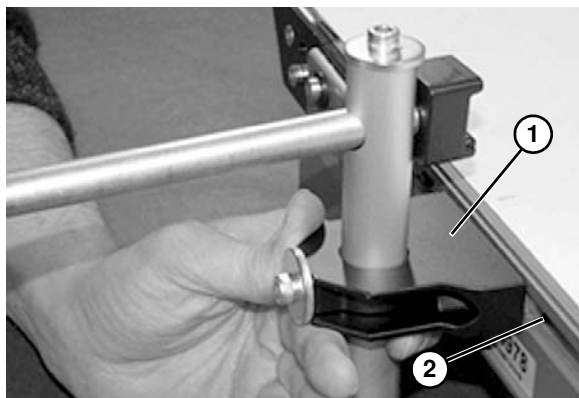

Figure 29
1. Install guide bracket assembly (**Figure 29, item 1**) into the conveyor t-slot (**Figure 29, item 2**).